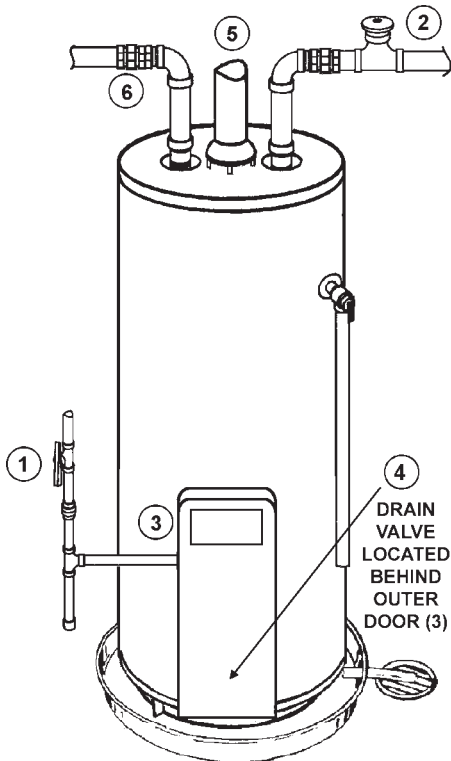

FIGURE 1.
- Carefully plan the place where you are going to put the water heater. Correct combustion, vent action, and vent pipe installation are very important in preventing death from possible carbon monoxide poisoning and fires, see figure 1 and 2.
If the main gas line Shut-off valve serving all gas appliances is used, also shut "OFF" the gas at each appliance. Leave all gas appliances shut "OFF" until the water heater installation is completed, see Figures 1 and 2.
2. Turn "OFF" the water supply to the water heater at the water shut off valve or water meter. Some installations require that the water be turned off to the entire house, see Figures 1 and 3.
4. Attach a hose to the water heater drain valve and put the other end in a floor drain or outdoors. Open the water heater drain valve (behind outer door). Open a nearby hot water faucet which will relieve pressure in the water heater and speed draining. The water passing out of the drain valve may be extremely hot. To avoid being scalded, make sure all connections are tight and that the water flow is directed away from any person, see Figures 1 and 4.